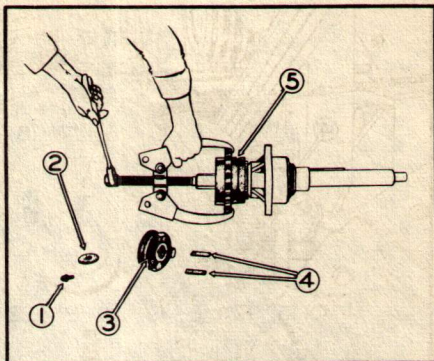
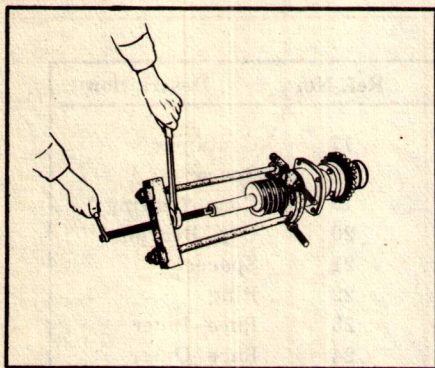

Figure 9 Pulling Drive Sprocket
Figure 8 Pulling Hoist Worm
Pull the worm from the shaft, Figure 8. Remove capscrew (1), Figure 9, retaining washer (2), clutch (3), keys (4), and pull the sprocket assembly (5). The bearing container (1), Figure 10, may now be slipped off the shaft. The